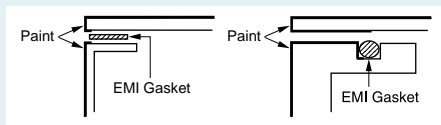

Figure 17 Non-Conductive Paint Intrudes Slightly Under Gasket to Provide Edge Protection
3. To prevent corrosion on outside edges exposed to severe corrosive environments, use dual conductive/non-conductive gaskets (see page 55) or allow the non-conductive protective paint (normally applied to outside surfaces) to intrude slightly under the gasket (see Figure 17).